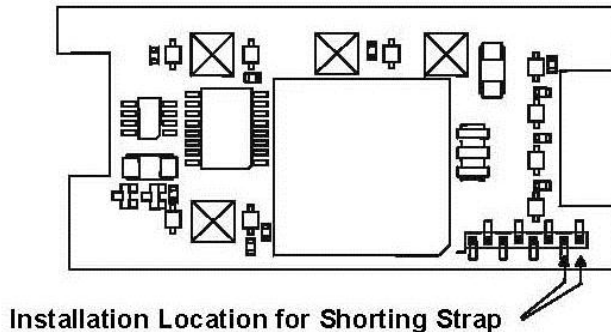

Figure 8, AP033 Logic Board
2. Reinsert the shorting plug into the two holes near the end of the Logic Board. (Figure 8.)
6. In Cal Mode, the **EFFECTIVE GAIN** indicators serve as an adjustment indicator. The **EFFECTIVE GAIN** indicators are located on the Logic Board (Figure 8). It may be necessary to hold the boards in your hands to see the indicators while making the adjustment.